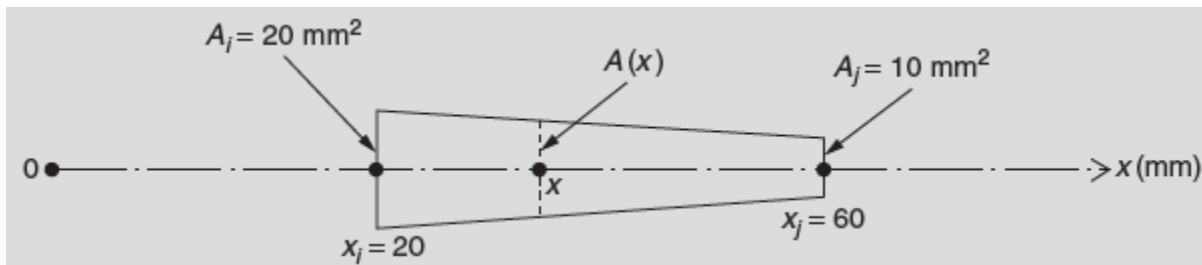

Figure P5.2
- A one-dimensional tapered fin element has the nodal coordinates $x_i = 20$ mm and $x_j = 60$ mm with the area of cross section changing linearly from a value of $A_i = 20 \text{ mm}^2$ at x_i to a value of $A_j = 10 \text{ mm}^2$ at x_j as shown in **Figure P5.2**.